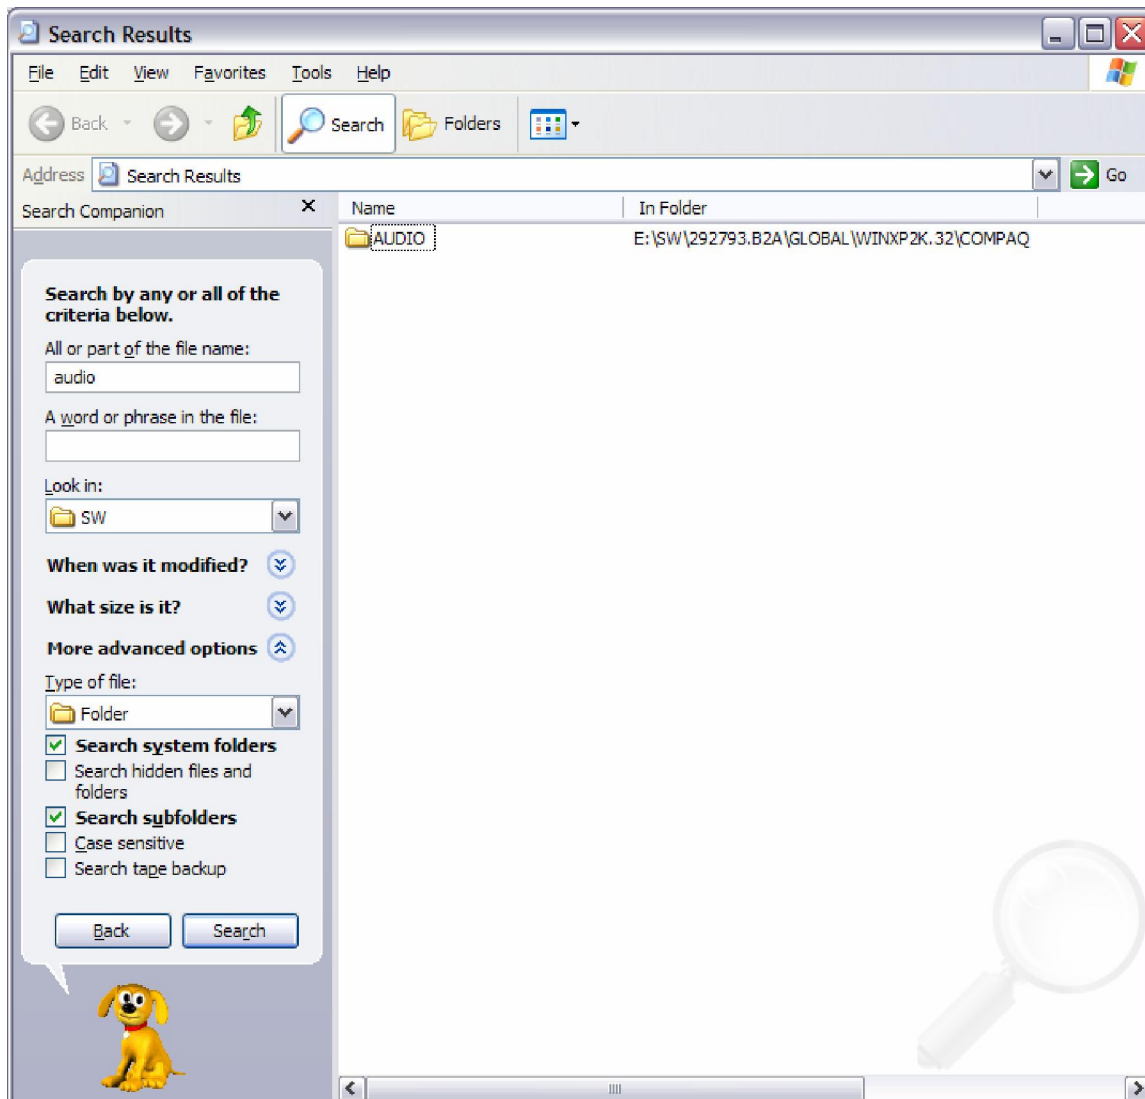

Figure 4.1 Windows XP Search Options for locating drivers on restore CD
5. In the Type of file: field, select Folder. See Figure 4.1 for an example.